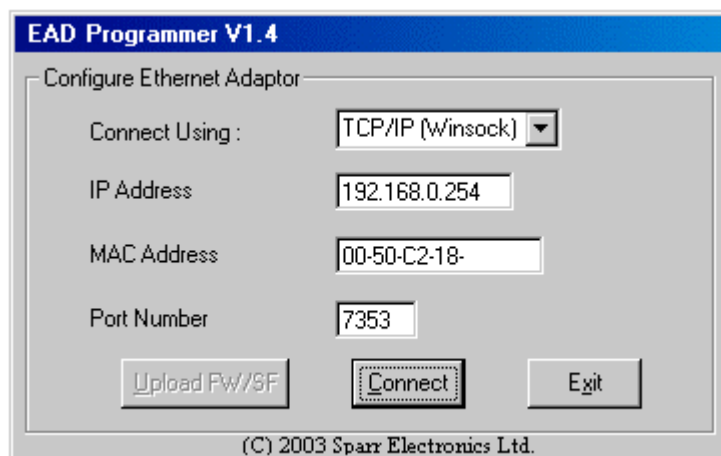

Fig 11. Connect through TCP/IP(Winsock)
**Note:** To program new EAD, for the first time using TCP/IP, enter an IP address (an unused IP) and also the MAC Address in the specified field ( You can get the MAC Address of our EAD by looking at the details in our EAD unit). And then go for *Connect* it will display the *Configuration* window as shown in the figure 11.
Enter the correct password to get to the main window as shown in the figure 11. The Default password assigned to EAD is “77277”.